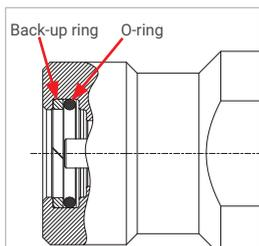

Figure 6
- ▶ Before inserting the receptacle insert (Pos. 7), check both sealing elements (o-ring and back-up ring, *Figure 6*) for correct installation sequence, proper position and any damages.